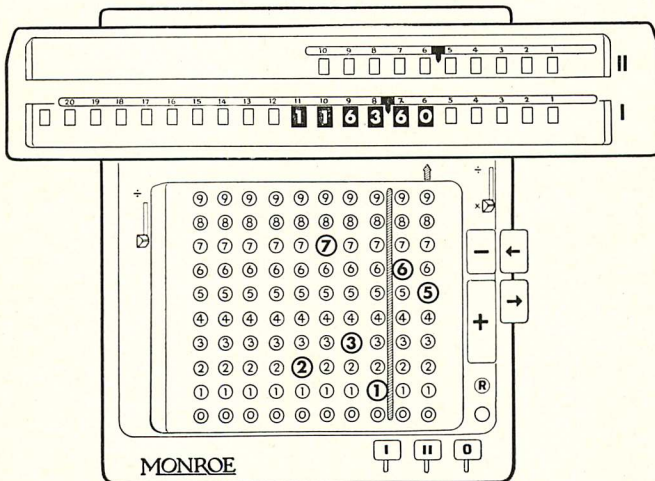

Figure 21
*Step 2*—Change keyboard set-up to 2731.65. Depress plus bar once. The amount of the decrease, 1163.60, appears in the lower dials as illustrated in Figure 21.